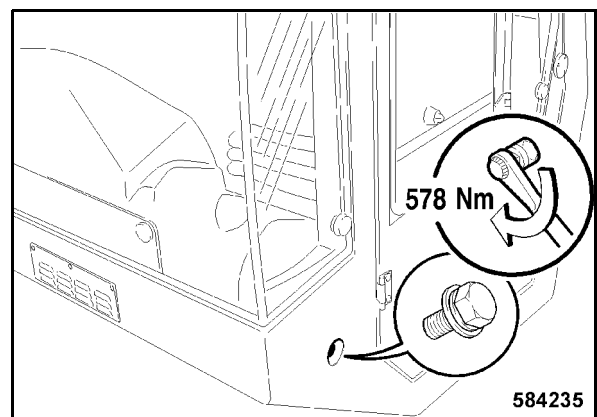

Fig. 218
- Tighten the front lateral fastening screw on the left hand side with 578 Nm (Fig. 218).